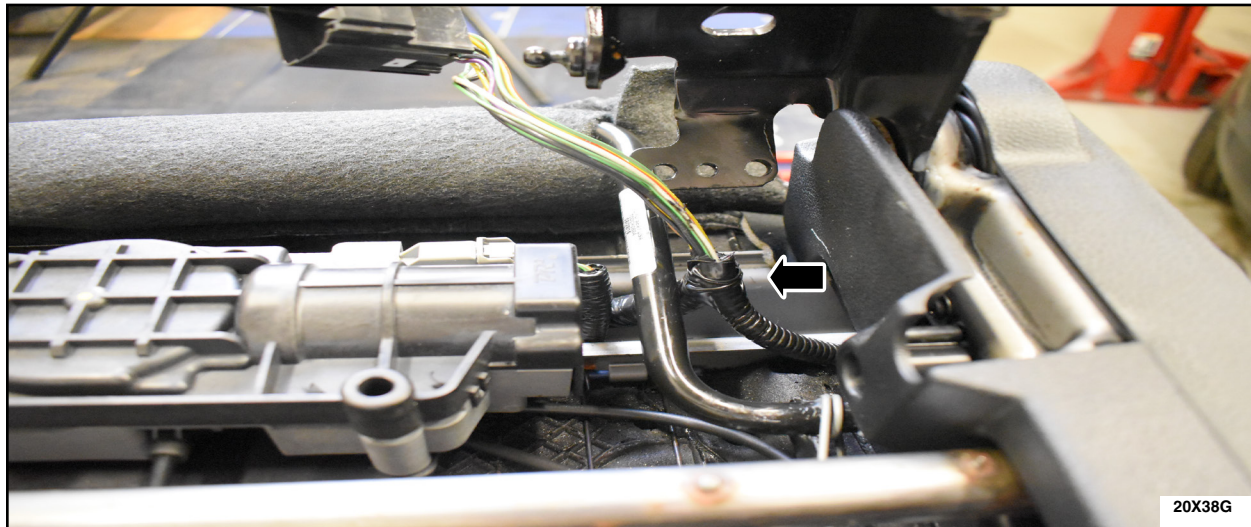

FIGURE 10
12. Relocate the take out (branch off wire) and spot tape it to the main harness at the end of the convolute tubing. See Figure 10.